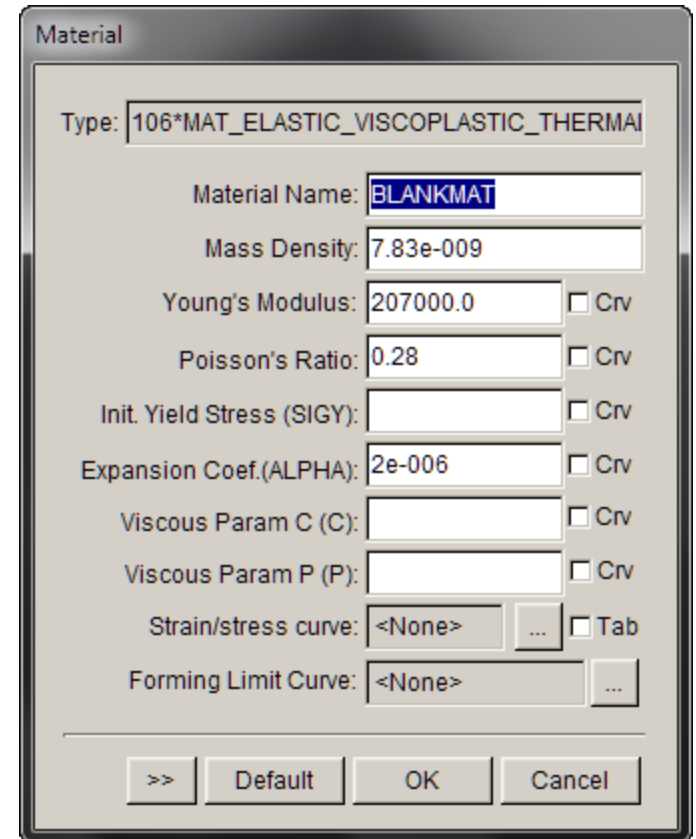

Figure 12
3. Material parameters dialog box is illustrated in Figure 12.